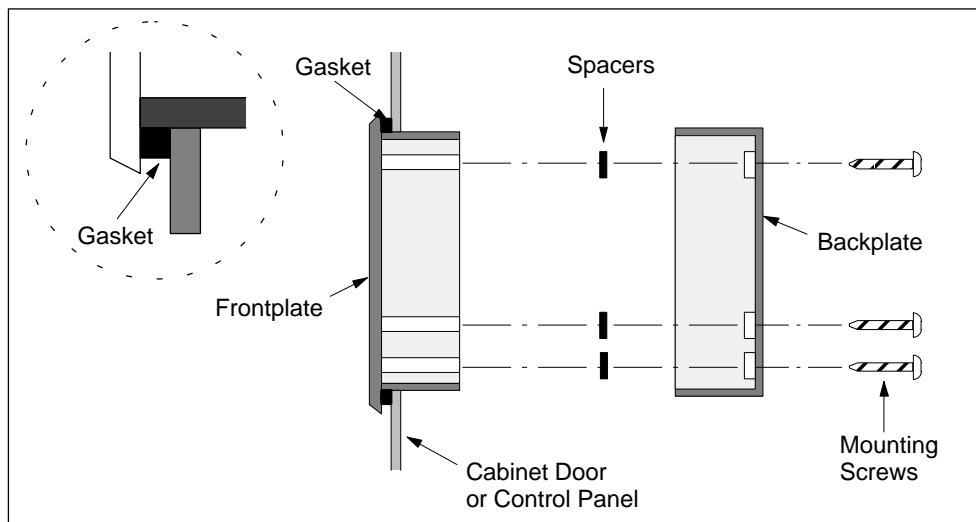

Figure 1-7 Positioning Spacers
Spacers	Self-adhesive spacers are included for mounting the TD 200 to a mounting surface. See Figure 1-7.
2. Place the spacers over the screw holes on the inside of the backplate. The spacers maintain pressure on the TD 200 circuit board when the TD 200 is reassembled. See Figure 1-7.
Use the following steps and refer to Figure 1-7 to complete the mounting of your TD 200.